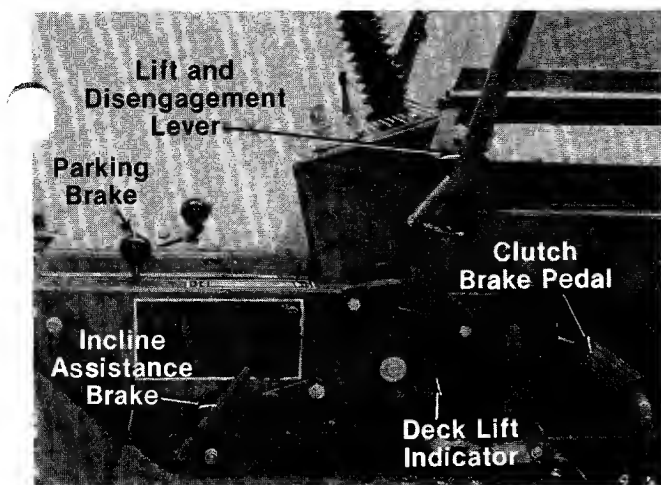

FIGURE 17.
The clutch-brake pedal is located on the right side of the lawn tractor. Depressing the clutch-brake pedal part way disengages the clutch. Pressing the pedal all the way down disengages the clutch and engages the disc brake. See figure 17.
To set the parking brake, depress the clutch-brake pedal and press the parking brake knob down. To release the parking brake, depress and release the clutch-brake pedal. See figure 17.
When stopping on a hill, hold the incline assistance brake lever back while you release the clutch-brake pedal until the lawn tractor begins to move, then release the lever. This lever permits smoother starts and clutch engagement by holding the tractor during the brake release/clutch engagement operation. See figure 17.
The deck lift indicator marks the position being used for the lift lever. Select the lift lever position desired, press the indicator lever outward, move it to the position immediately below the lift lever and release the indicator lever. See figure 17.
3. Depress the clutch-brake pedal and set the parking brake. See figure 17.
4. Place the lift and disengagement lever in the DISENGAGED position. See figure 17.